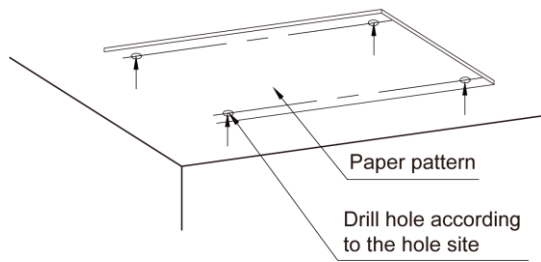
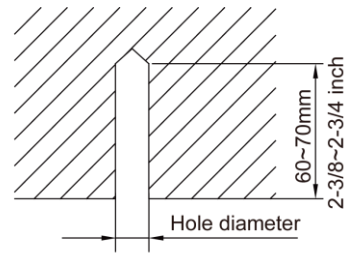

Fig 4.1.3
Fig 4.1.4
- 1) Stick the reference cardboard on the installation position; drill 4 holes according to the hole site on the cardboard as shown in fig 4.1.3; diameter of drilling hole is according to the diameter of expansion bolt and the depth is 60-70mm(2-3/8~2-3/4 inch), as shown in fig 4.1.4.